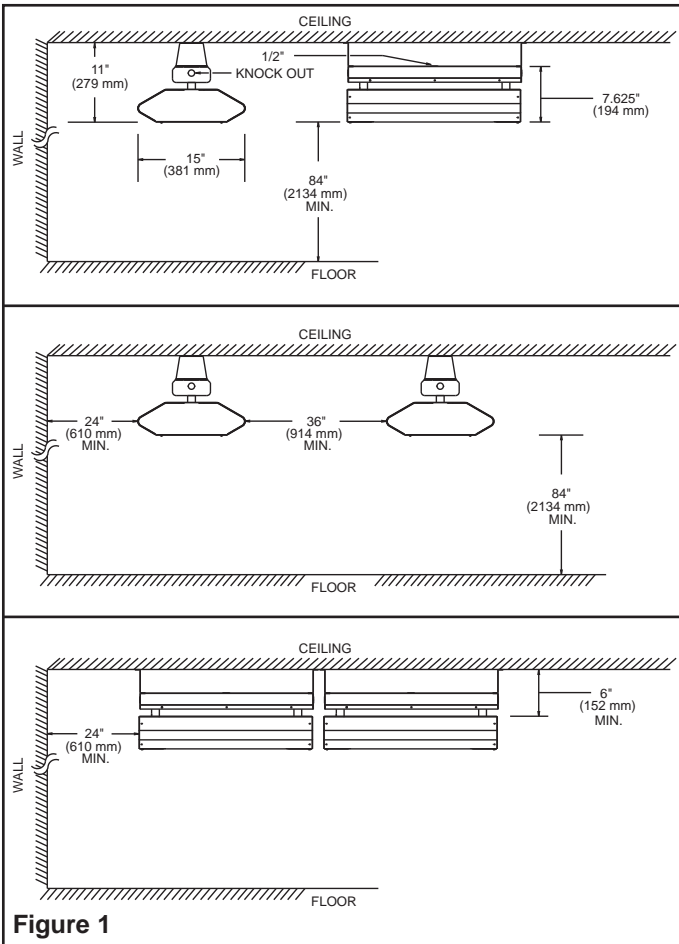

Figure 1
5. Minimum clearances, as specified in Figure 1, must be maintained. Keep combustible material, such as boxes, crates, etc., away from heater.
Mounting Limitations – Refer to Figure 1 for mounting limitations. Observe all minimum dimensions from ceiling, walls, floor, and combustible material.